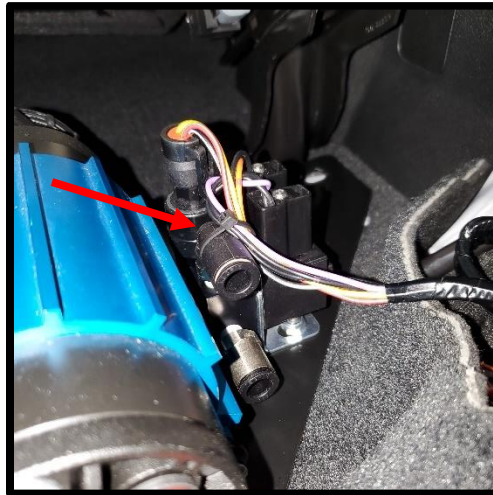

Figure 21
3-C) Attach the three (3) plugs from the ARB pressure control module wiring harness to the valve assembly as shown in **Figure 21**. The plug with the purple wire must be attached to the solenoid directly above the exhaust port (this will be the solenoid towards the front of the vehicle). Bundle the wires over and use a cable tie to attach them to the upper fitting as shown in **Figure 21**. This will eliminate any risk of the wires catching on the bottom of the seat. Use a 2.5mm allen wrench to tighten the two small screws in the center of each solenoid plug.